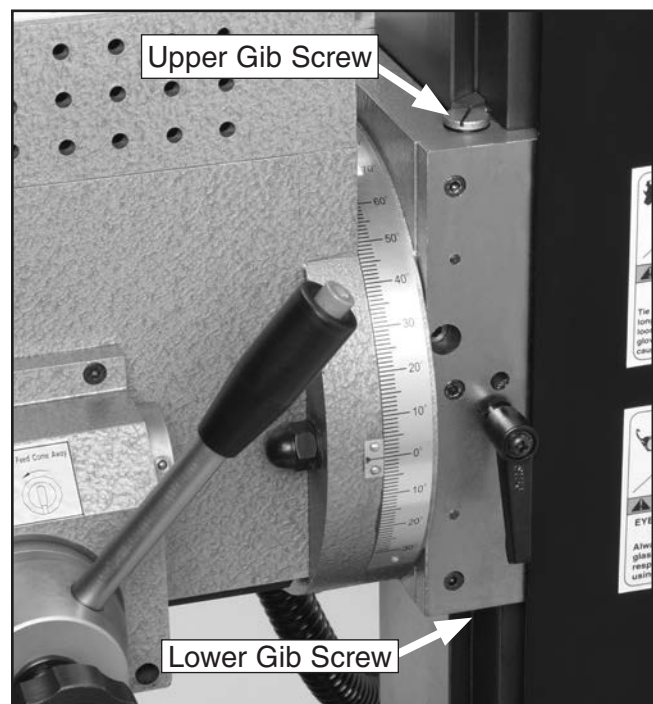

Figure 37. Headstock gib adjustment.
2. Loosen the headstock lock lever (see **Figure 37**).
3. Loosen or tighten the upper and lower gib screws (**Figure 37**) in an alternating manner to adjust the headstock gib.